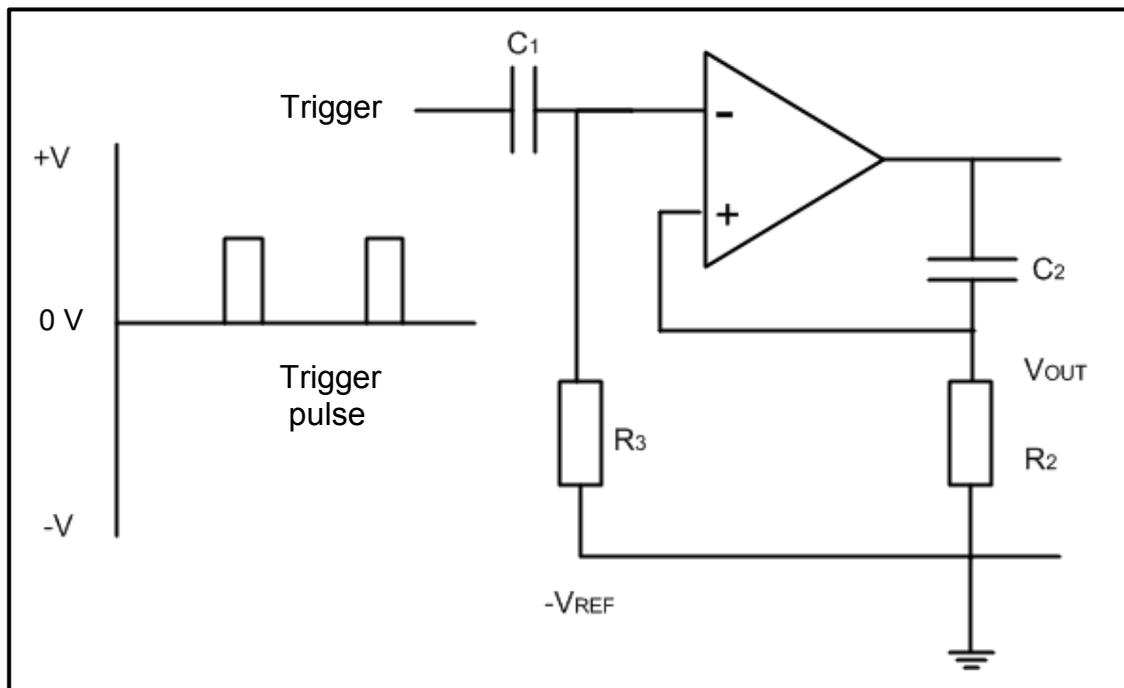

FIGURE 7.4: MONOSTABLE MULTIVIBRATOR OP-AMP CIRCUIT
7.9 Refer to the monostable multivibrator op-amp circuit in FIGURE 7.4 and answer the questions that follow.